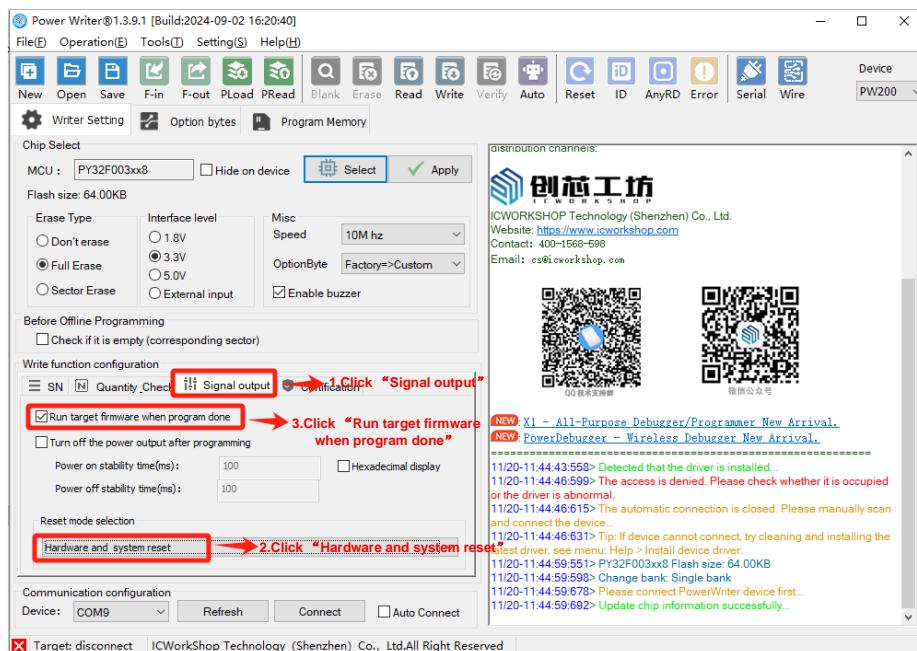
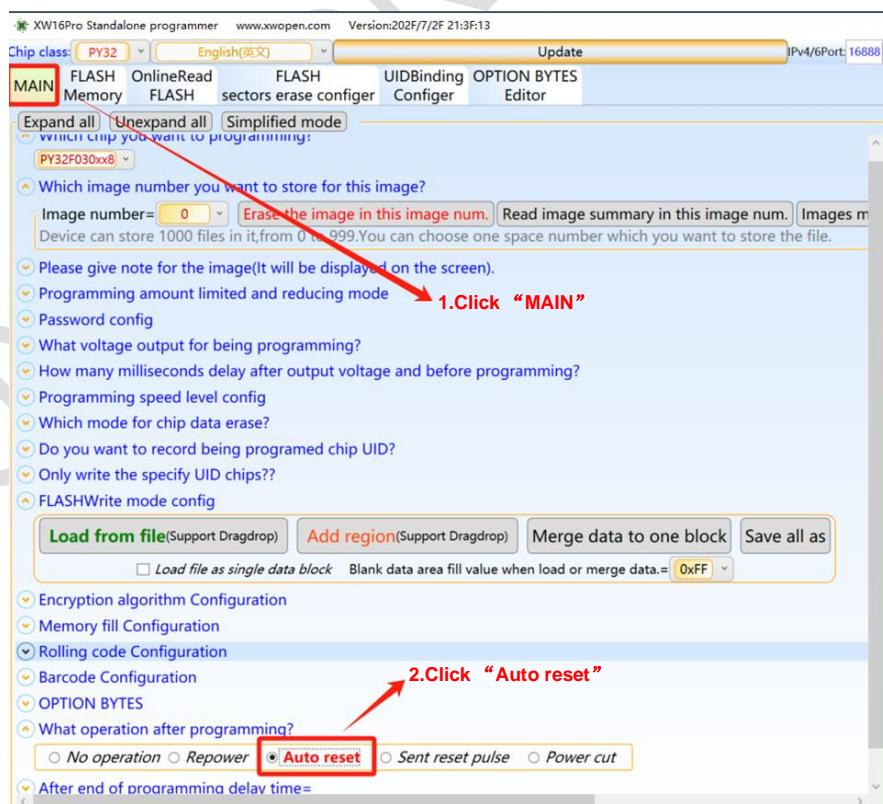

Figure 16-3 Power Write Operation Tick 'Reboot Chip After Programming'
Figure 16-4 XW Operation 'Smart Reset'
- When configuring the Option of the programmer, you need to check the "Smart Reset" function or "Restart the chip after programming" (programmers typically have similar options that need to be selected). The specific steps are shown in Figures 16-3, Figure 16-4.